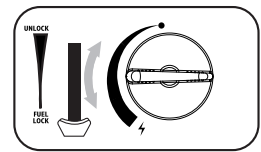

fig. 5
6. Adjust the control knob to the required position (fig.5) Never set the cartridge lever (6) to the "UNLOCK" position during use!